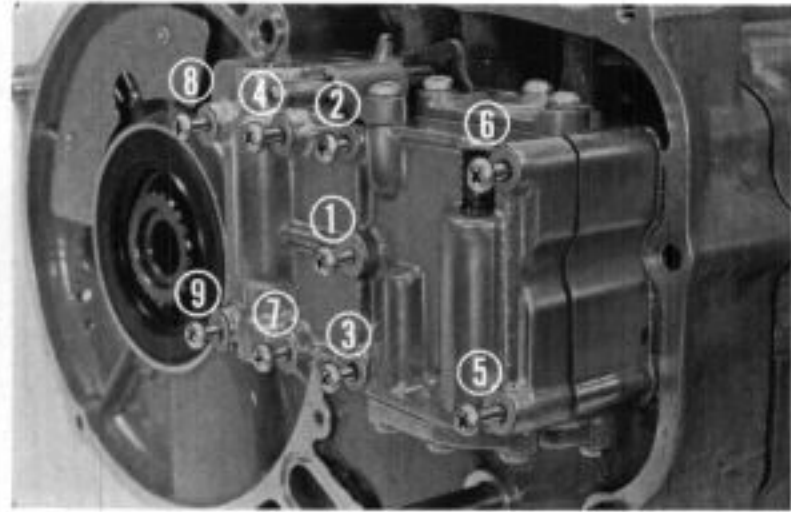

Fig. 7B-88
3. Adjustment of manual shift drive arm. (Fig. 7B-89)